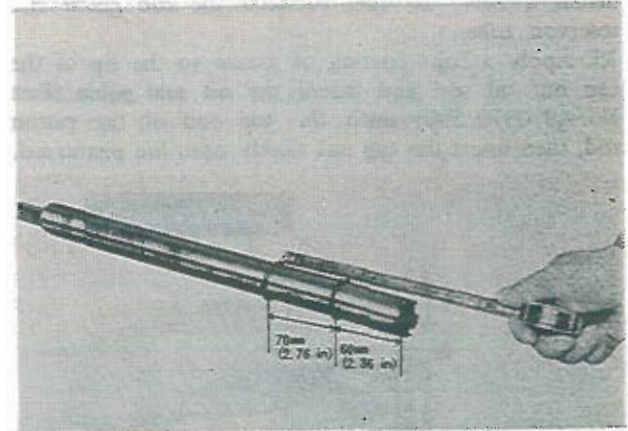

Fig. 13-34 Installing of oil stop rings
11. Install the two oil stop rings onto the bottom side of the pressure tube as shown in Fig. 13-34.